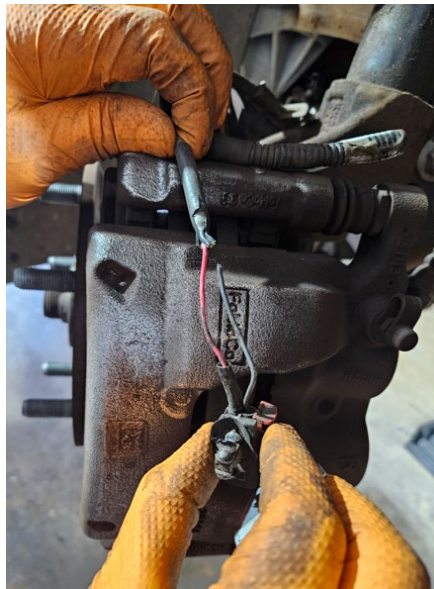

Figure 3
4. The wheel speed sensors can be found on the harness that plugs into the wheel end near the brake caliper (Shown in Figure 3).
- a. For an AWD NGDV, you will find a wheel speed sensor harness on all four wheel ends. You are looking for a damage, or broken wires, as seen in Figure 3, to know if you need to remove and replace the harness that this connector is a part of. Replacing this harness will eliminate your DTCs & Tell Tales and mitigate the possibility of a Rear Drive Unit failure for the specific reasons cited in this Technical Bulletin.